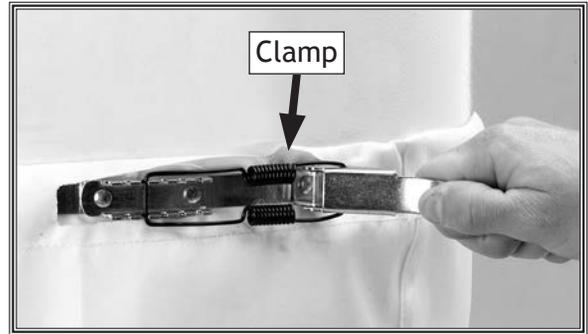

Figure 18. Securing lower collection bag.
15. Fasten the upper and lower bags to the collector using the quick-release clamps, as shown in **Figure 18**.